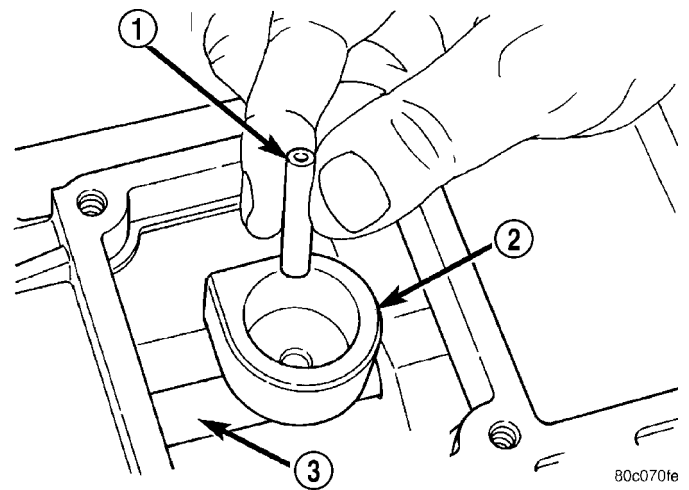

Fig. 113 ROLL PIN IN SHIFT SOCKET
(12) Align roll pin holes in shift socket and shift shaft. Then start roll pin into shift shaft by hand (Fig. 113).